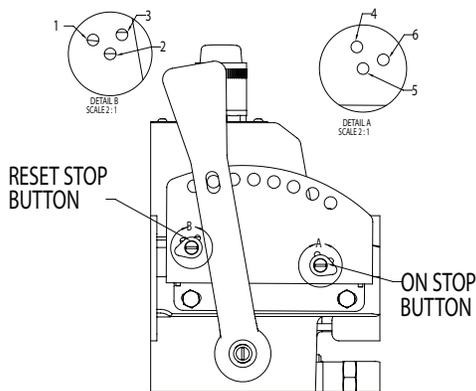

Figure 6 – Breaker Handle Stop Buttons (Shown in Nominal Middle Positions)
6. Reposition bail assembly over toggle arm of circuit breaker and slide bail brackets under the top two (2) 1/4-20 screws in the mounting plate.
7. Align bail assembly mounting holes/slots (bottom two (2) 1/4-20 screws) over the holes in the mounting plate labeled for the manufacturer's circuit breaker.
8. Securely fasten all four (4) 1/4-20 screws on the bail assembly.
9. Visually inspect for proper alignment and accurate mechanism for correct operation. If necessary (to prevent over/under toggle travel and allow resetting of tripped breaker), adjust the circuit breaker stops as required (see Figure 6).
6. Visually inspect for proper alignment and accurate mechanism for correct operation. If necessary (to prevent over/under travel and allow disconnect to turn ON and OFF), adjust the disconnect stops as follows (see Figure 6).
7. Locate adjustable stop buttons in the appropriate holes for disconnect manufacturer to be used as shown in Figure 6. Adjust stop buttons as required per disconnect switch operation test below.